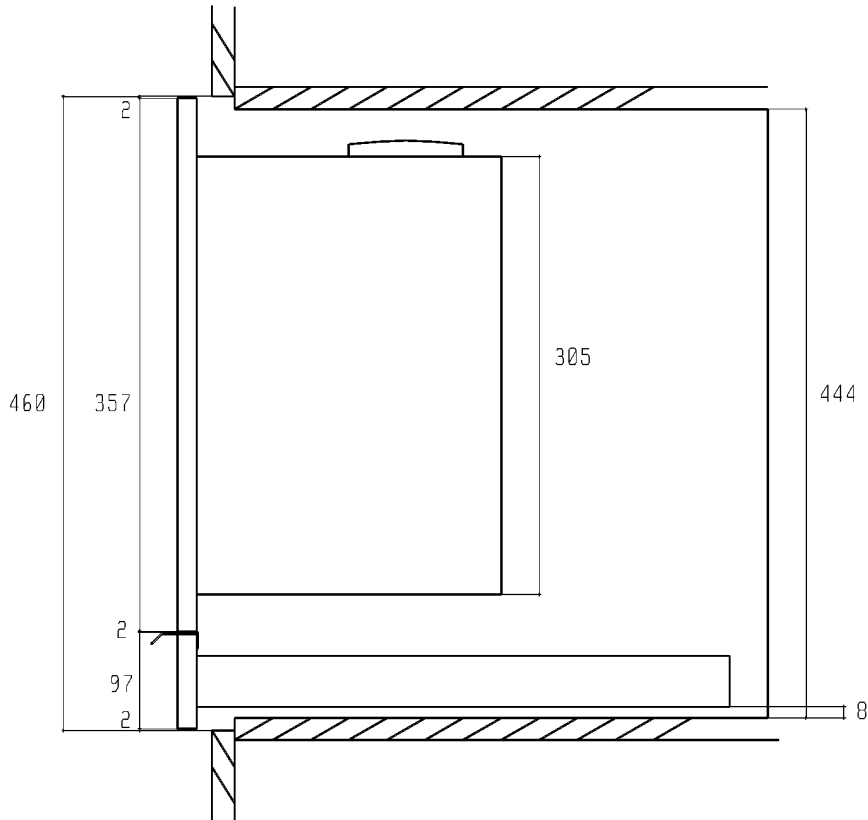

**Fig. 9**
- Connect the power cable supplied to the connector on the back of the appliance, plug the connector into the power supply unit on the back of the post (fig.3) where you will find the terminal board (fig.9) set to operate at a supply voltage of 230V monophas.